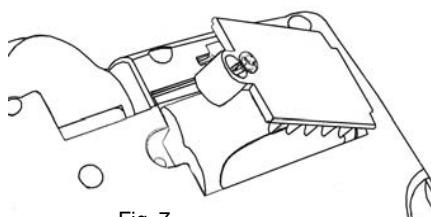

Fig. 7
2. With a #1 Phillips screw diver, remove the screw securing the battery pack compartment cover to the unit and place aside. (Fig. 7)